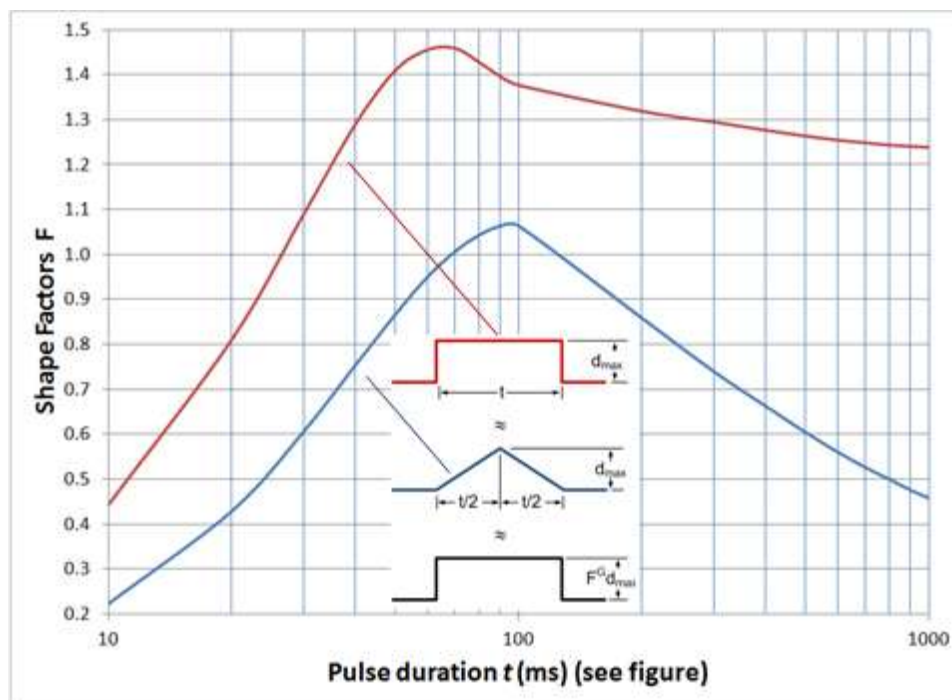
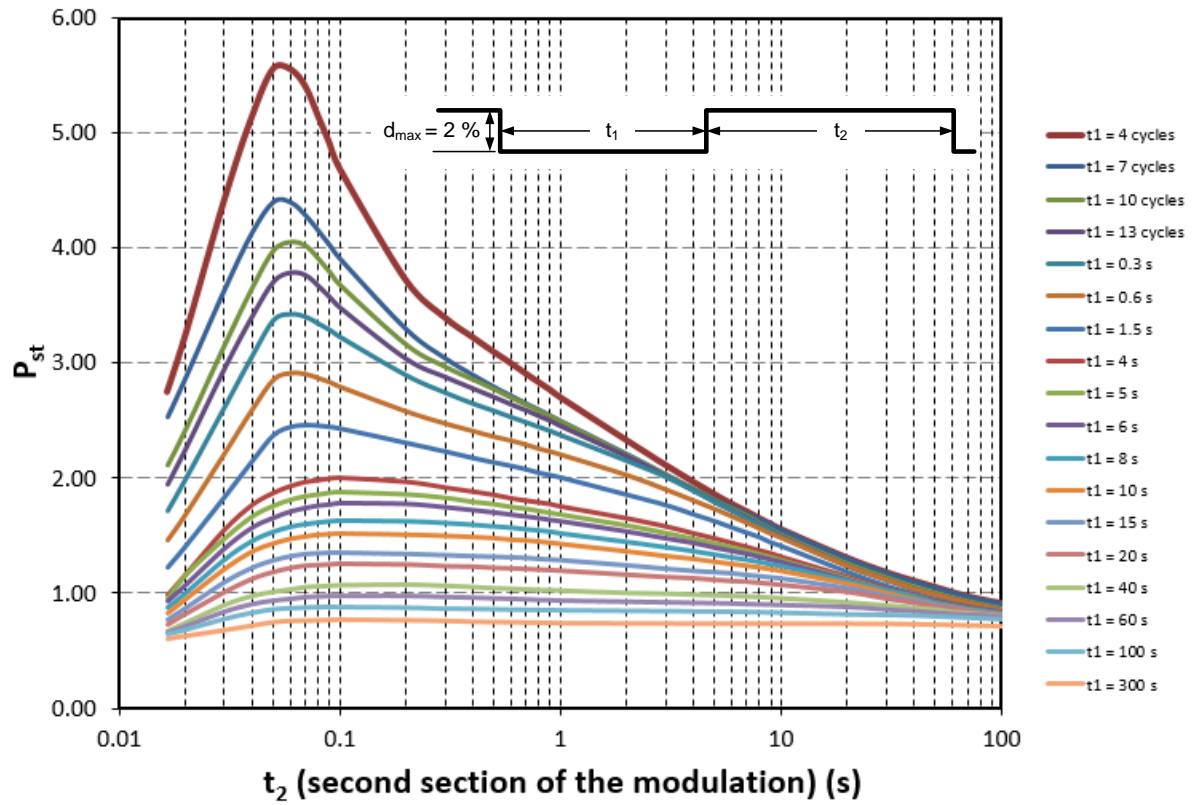

Figure 2
Figure 5
- Shape of voltage changes: The shape of changes in RMS voltage at PCC due to load operation. The shape change options are as follows and illustrated in Figure 2 through Figure 5:
- Shape Factor: A factor that can be used to translate typical modulation waveforms into equivalent square wave modulating waveform in order to make use of “Pst=1” curve. These can be manually read using plots in Figure 2 through Figure 5. However, the module computes this factor based on the other field values and auto-populates this field.